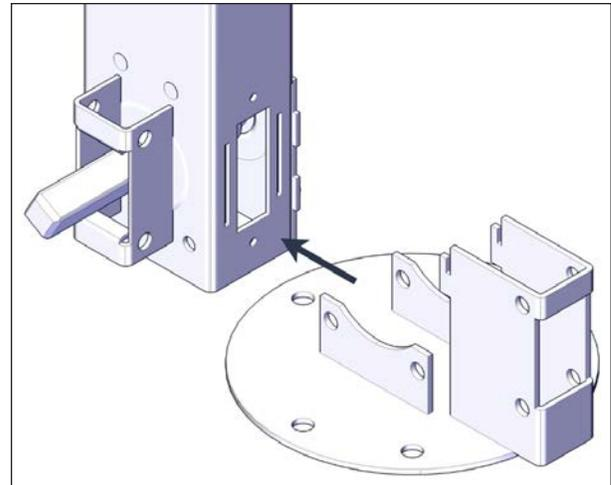
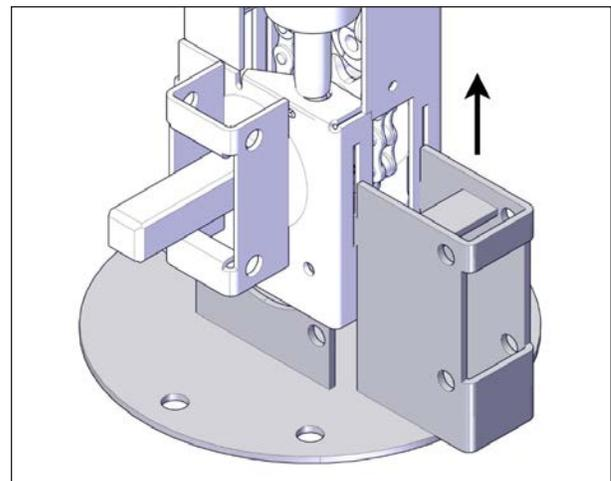

FIGURE 16: FOOT BRACKET INSTALLATION
FIGURE 17: INSERT LEGS IN SLOTS
2. Install a foot bracket to the non-motor side jack. Make sure to align the foot bracket on the right side of the U-frame shaft as shown in Figure 16.
3. Slide the alignment vertical legs of the foot in the bottom alignment slots of the jack, see Figure 16 and Figure 17.
4. Push upwards to lock in place, see Figure 17. Make sure to get a full contact with the bottom plate. Use a rubber mallet if necessary.